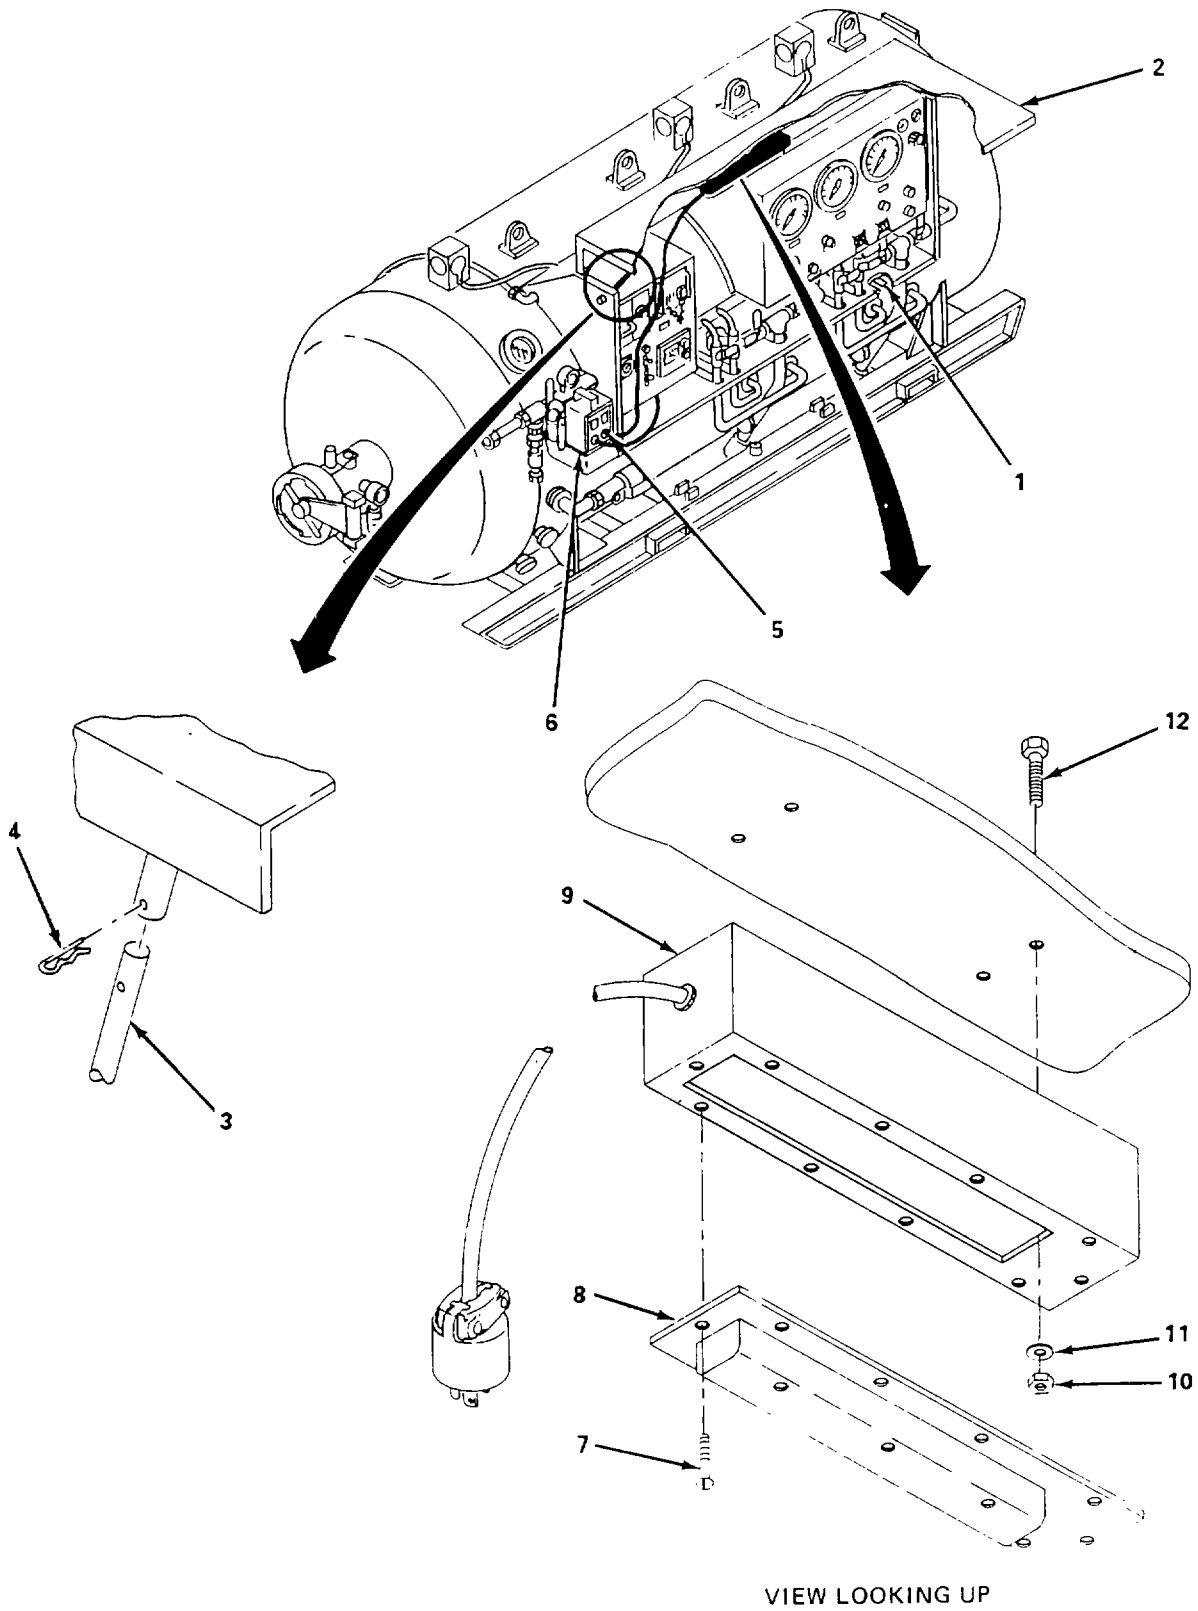

Figure 4-27. Fluorescent Light Assembly, Replace.
a. Replace. (figure 4-27)
- (1) Unlatch two latches (1), open hood assembly door (2), and install two supports (3) and pins (4).
- (2) Remove electrical plug (5) from the GFI (6).
- (3) Remove eleven screws (7) and remove light assembly (8) from housing (9).
- (4) Remove four nuts (10), lockwashers (11), and screws (12) and remove housing (9) and light assembly (8).
- (5) Position housing (9) on enclosure door (2) and secure with four screws (12), lockwashers (11), and nuts (10).
- (6) Install light assembly (8) into housing (9) and secure with eleven screws (7).
- (7) Install electrical plug (5) into GFI (6).
- (8) Remove two pins (4), supports (3), close hood assembly door (2) and secure with two latches (1).